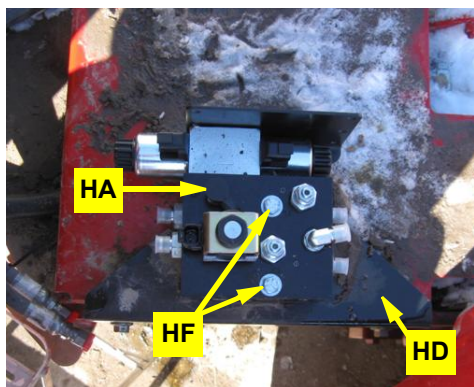

Figure 4-1b: Installed steering block
b. Place the slotted side of steering controller bracket **HH** on top of the hydraulic steering block mounting bracket **HD** with the short side facing up and towards the center of the tractor. Using hardware **HF**, attach the hydraulic steering block **HA** to the steering block bracket **HD** (Figure 4-1b).